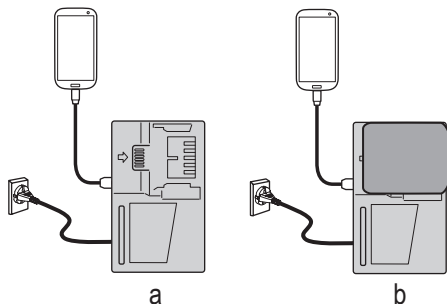

Fig. 18
- Charging a USB device from a electrical outlet. (Fig. 18-a)
- Charging a USB device and battery from an electrical outlet. (Fig. 18-b)